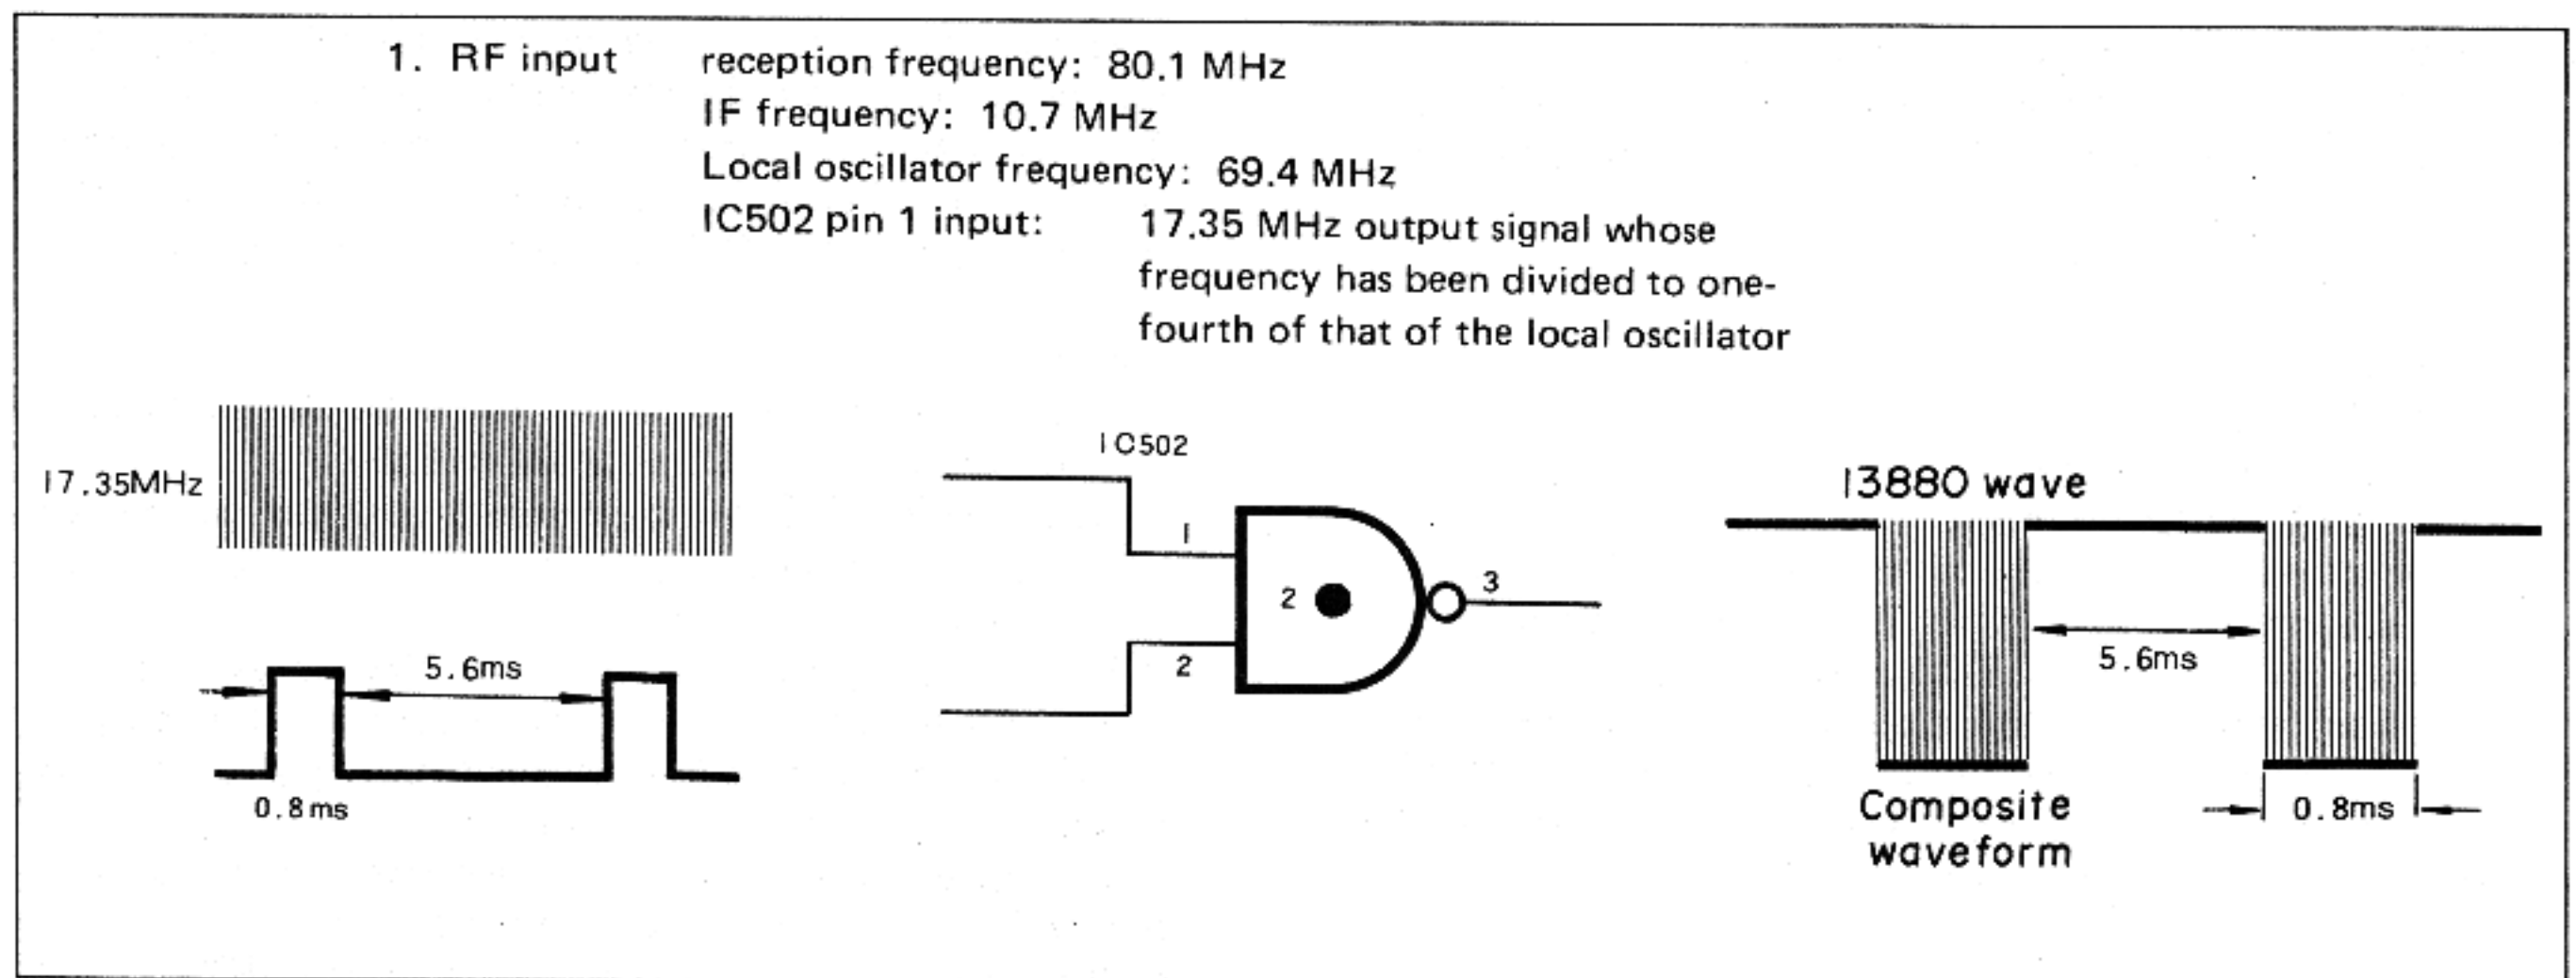

Fig. 2
The 0.8 ms pulse output signal from pin 8 of IC504 is inverted and it enters pin 2 of IC502. This means that composite waveforms such as that illustrated in Fig. 2 are available at pin 3 of IC502.
* If the FM reception frequency is taken to be 80.1 MHz, then the frequency of the local oscillator will be 69.4 MHz, and a 17.35 MHz signal (frequency which is one-fourth of that of the local oscillator) will enter pin 1 of IC502, it will be mixed with the 0.8 ms pulse and a composite output will be obtained as in Fig. 2.